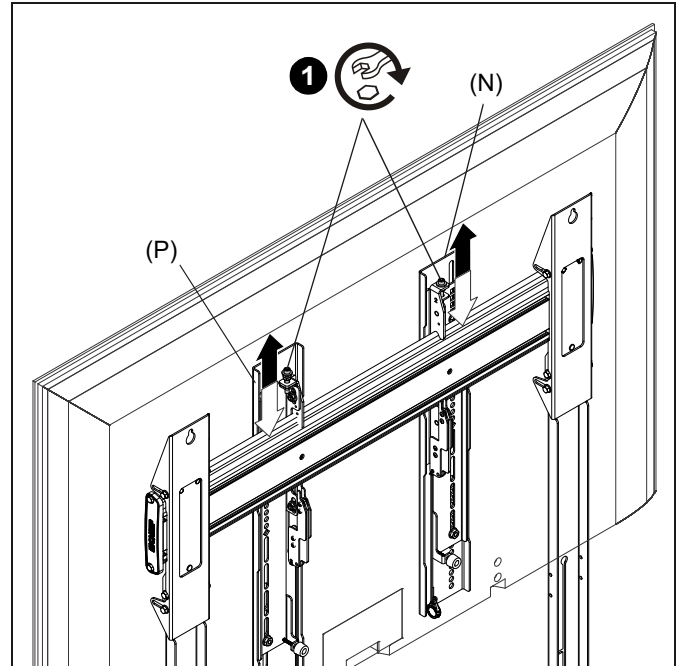

Figure 30
1. Use upper screws on back of interface brackets (N and P) to adjust the height and level of the display. (See Figure 30)